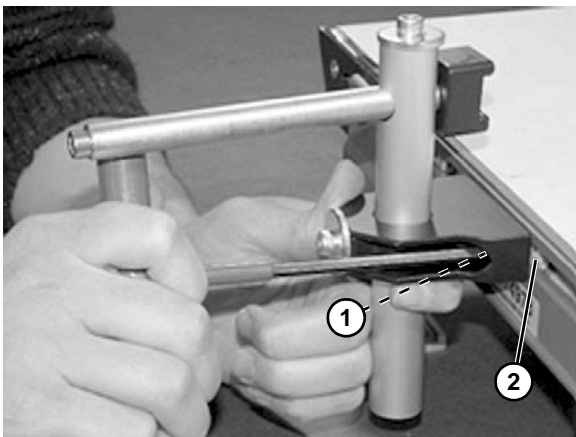

Figure 68
2. Tighten screws (**Figure 68, item 1**) making sure T-nut (**Figure 68, item 2**) rotates and engages inside of the T-slot.